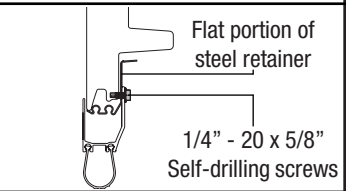

Fig. 6
STEP 3: Install new plastic retainer onto existing astragal retainer, positioning it so that the high point of the plastic retainer is tight against the lower integral rib. The plastic retainer can then be adjusted to a maximum of 3/4". Secure plastic retainer to the section using 1/4" - 20 x 5/8" self-drilling screws, up to 18" apart, as shown in **Fig. 1**. Install screws into flat portion of steel retainer, as shown in **Fig. 6**.